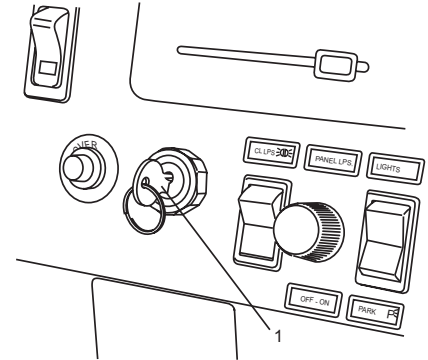

Figure 22
The ignition switch (Figure 22, Item 1) in the ON position provides ignition power to the control box and ignition power to the side door proximity switch.
1. Turn ignition switch ON (see Figure 22).